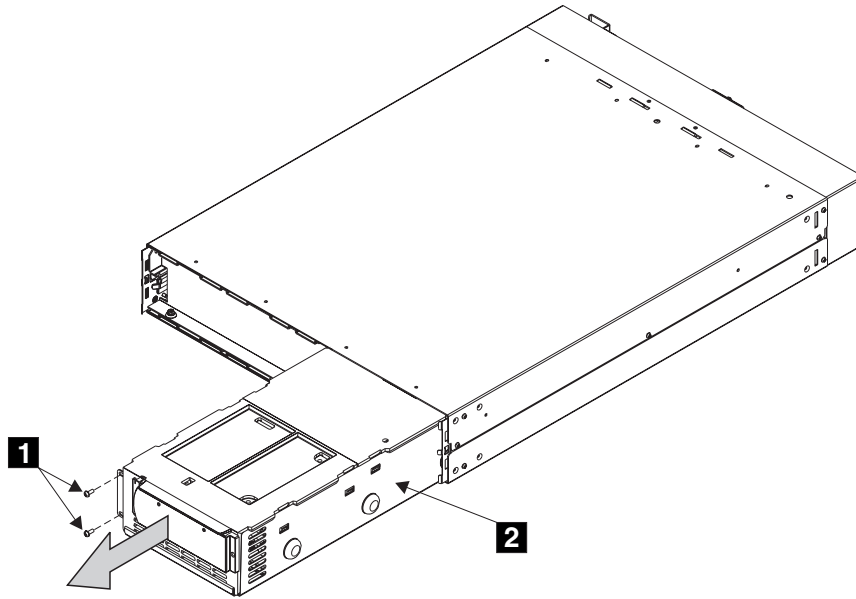

Figure 32. Removing the 2145 UPS electronics assembly
- 3. Remove the two screws **1** (shown in Figure 32 on page 44).